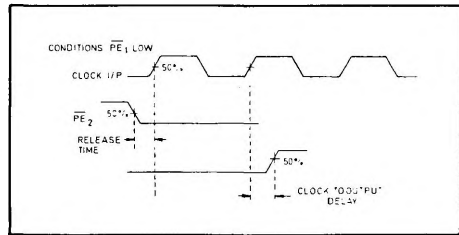

Fig. 4 Release timing diagram
- Release time is defined as the minimum time that can elapse between a H $\rightarrow$ L transition of a control input and the next L $\rightarrow$ H clock pulse transition to ensure that the  $\pm 5$  mode is forced by that clock pulse (see Fig. 4).